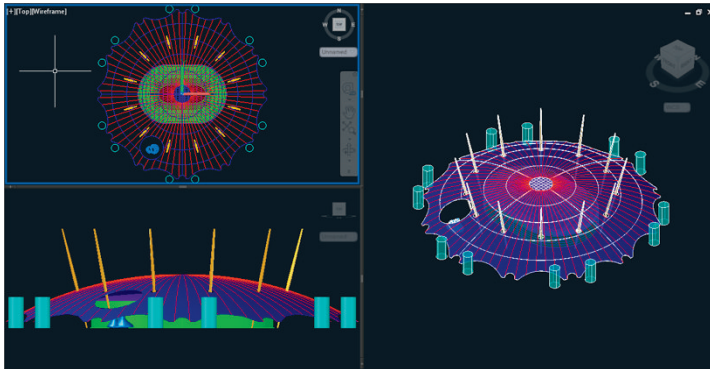

FIGURE 16.9 Three viewports, each displaying a different view and visual style
2. Click anywhere inside the lower-left viewport showing the front view to activate it. Open the in-canvas Visual Style Controls menu in this viewport and select **Shaded**. Click anywhere inside the viewport showing the top view to activate it. Open the in-canvas Visual Style Controls menu in this viewport and select **Wireframe**. Figure 16.9 shows the result.